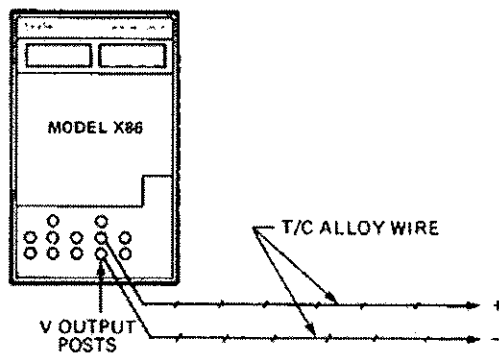

Figure 3-5: Thermocouple Simulation Using Direct Connection
3.3.2 Thermocouple Simulation without Use of External Reference Junction: Connect the Model X86 to the instrument of system being calibrated as shown in Figure 3-5.